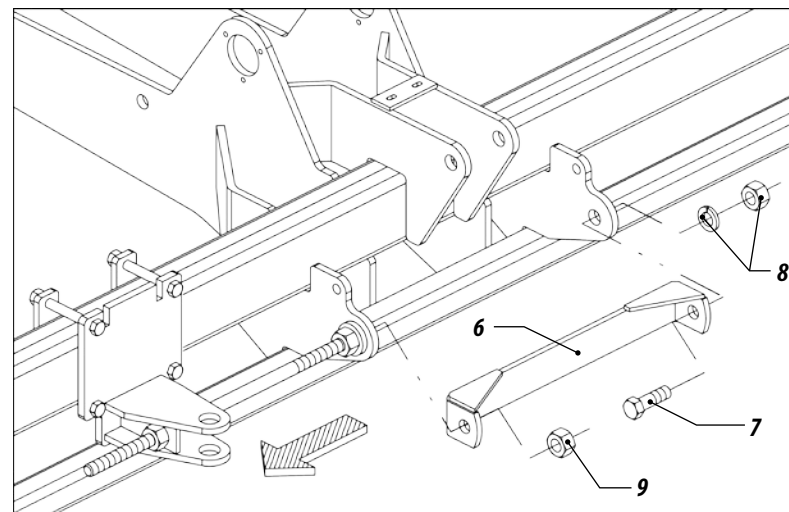

Figure 10
- 24 - With the coupler attached and the rod nuts loose, turn the rod until opens up to insert the header stabilizer bar (6), attaching it on one side with screw (7), washer and nut (8) and on the other side with the rod screw (9) figure 10.